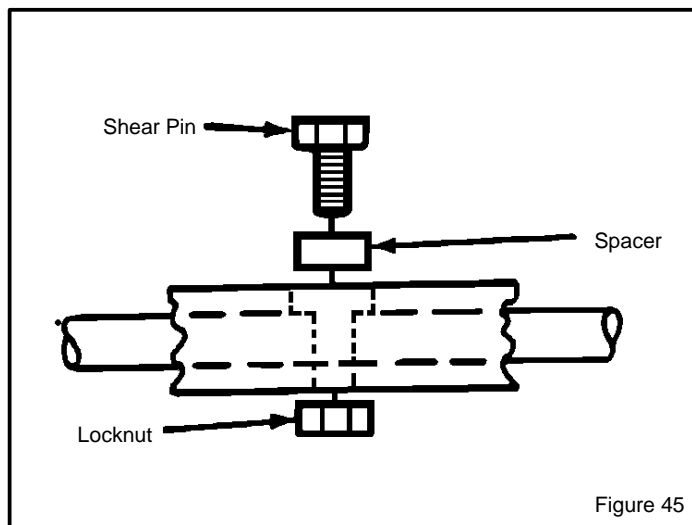

Figure 45
2. Align the hole in the auger with the hole in the auger shaft. Install new shear bolt, spacer and locknut found in the toolbox located on the belt cover (See Figure 45).